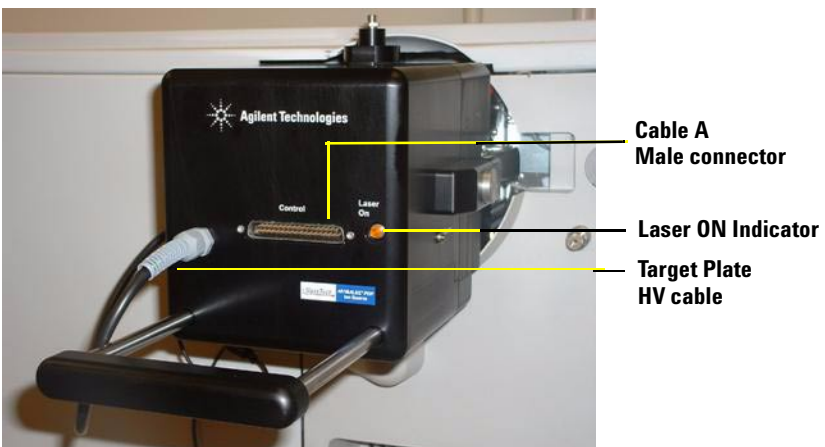

Figure 2 PDF-MALDI Ion Source
- PDF-MALDI Ion Source shown from various angles. - See Figures 2 and 3.